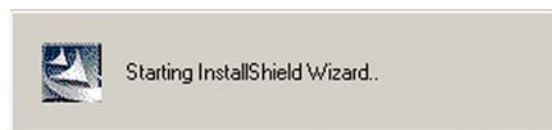

Figure 6-22: AC`97 Audio Driver Install Shield Wizard Starting
Step 4: Once you double click the **Setup** icon, the install shield wizard for the audio driver starts. See **Figure 6-22**.